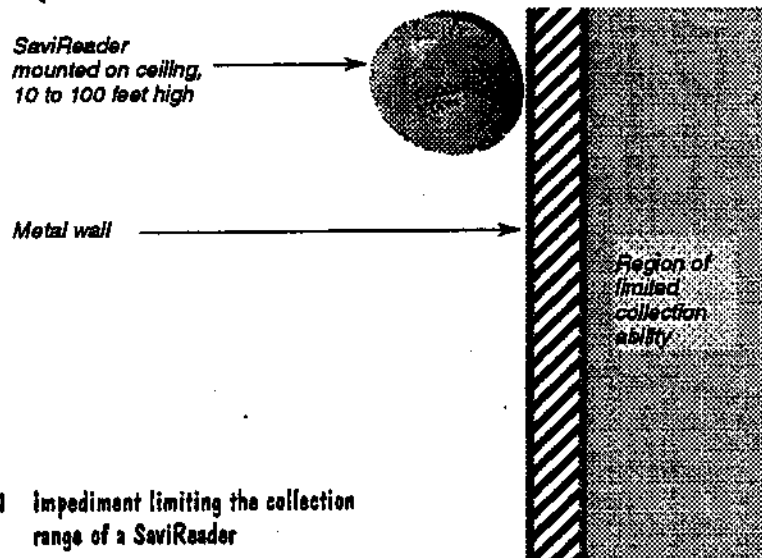

Figure 2-1 Impediment limiting the collection range of a SaviReader
- tag location relative to the SaviReader, such as behind a metal obstruction (as illustrated in Figure 2-1) or stacked under multiple layers